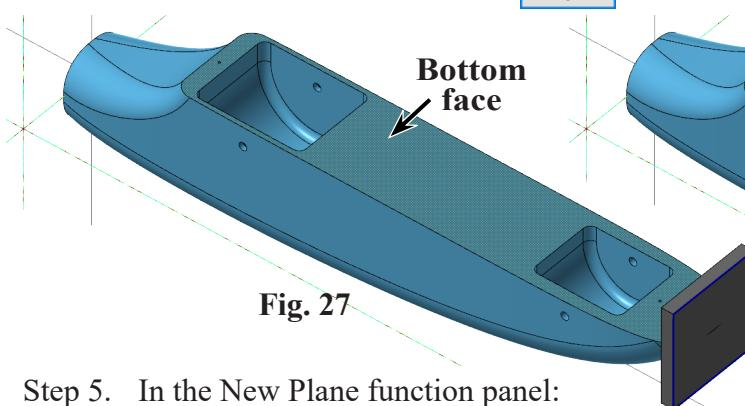

Fig. 27
Step 2. Rotate view to view **bottom face of body**, hold down middle mouse button (wheel) and drag to rotate view, Fig. 27.
Step 3. Click **bottom face** of the solid body to select, Fig. 27.